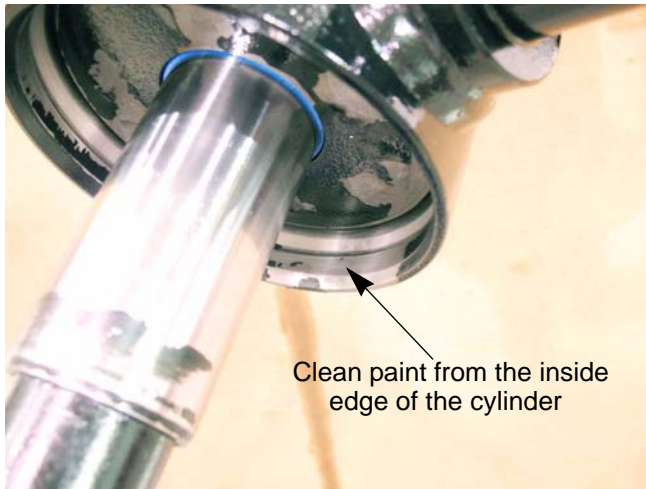

Figure 5.15
22. Clean the paint from the inside edge of the cylinder. See Figure 5.15.